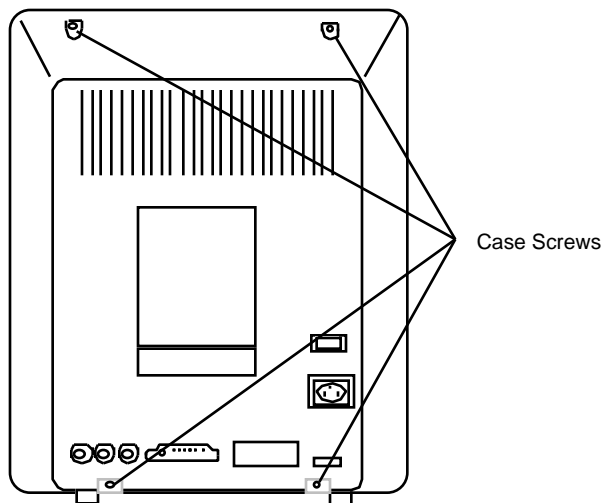

FIGURE 1
3. Remove the four case screws (Figure 1) from the rear cover.
2. Slide the rear cover onto the bezel, and replace the four case screws (**Figure 1**) .